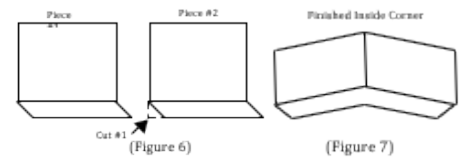

Figure 5
5. Fold base at mark with face in. While base is still warm apply adhesive and press base into corner. Carefully push the toe of cove base against the wall to close the triangle (Figure 5).